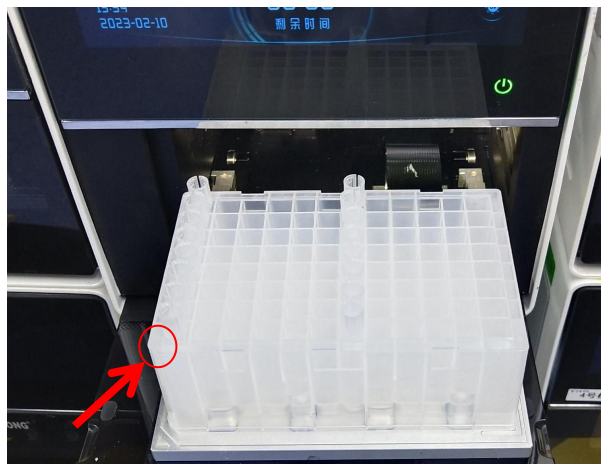

Figure 2. 96-deep well plate
**⚠ Note:** The user should ensure the marked notch of the plate faces front, which is shown in Figure 2 .